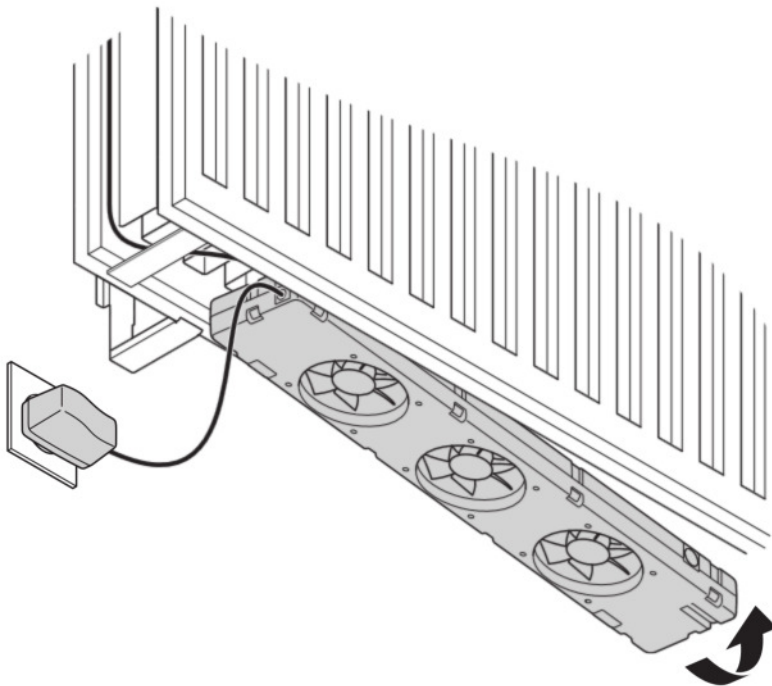

Fig. 2 - Attach the SpeedComfort (B1).
- Identify a space where the radiator wall brackets and connecting clips are not in the way. Attach the **SpeedComfort** (B1) at the bottom between the radiator plates with the **adjustable magnets** (b13, b14) (see fig. 2). The **SpeedComfort** (B1) can also be attached on top of the radiator and under a cover. **NOTICE** Make sure the **fans** (b7, b8, b9) still face upwards!